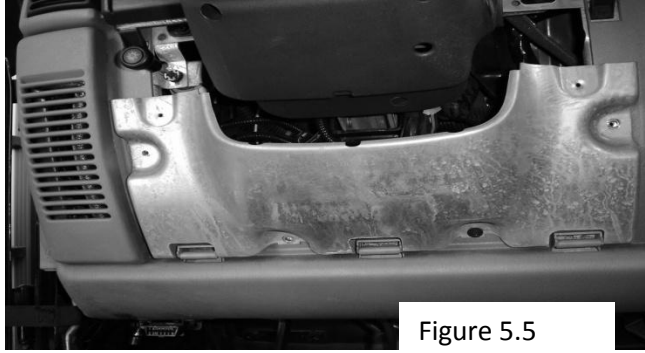

Figure 5.5
7. Remove reinforcement plate behind lower panel by removing four screws Fig. 5.5